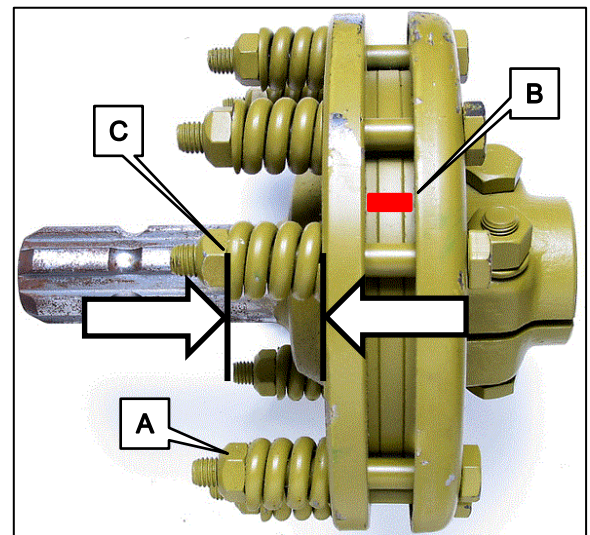

Figure 6.4
- 6.4.4.2 Loosen the nuts on all springs, see Figure 6.4 A, just until the springs can freely rotate, yet remain secure on bolts.
- 6.4.4.3 Mark the outer edge of the friction plates as shown in Figure 6.4 B.
- 6.4.4.8 If the above power test is successful and the marks are not aligned, then tighten the nuts on the springs to their original position (see Figure 6.4 C) and replace all guarding.